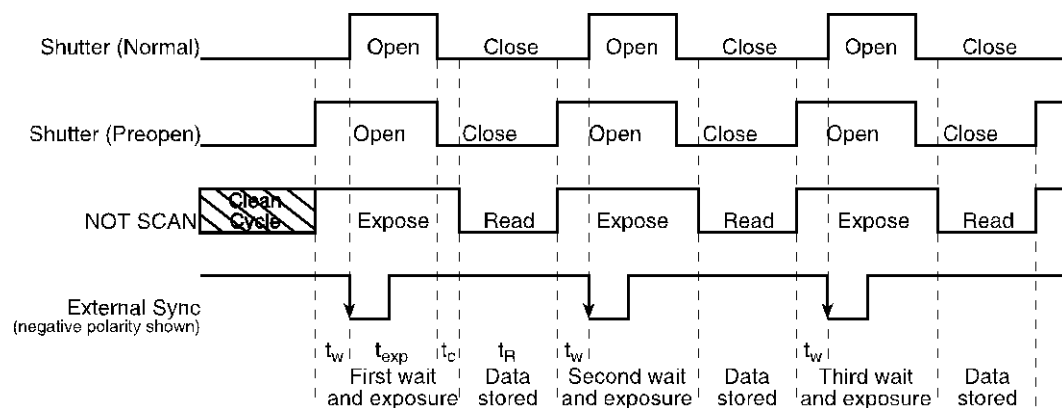
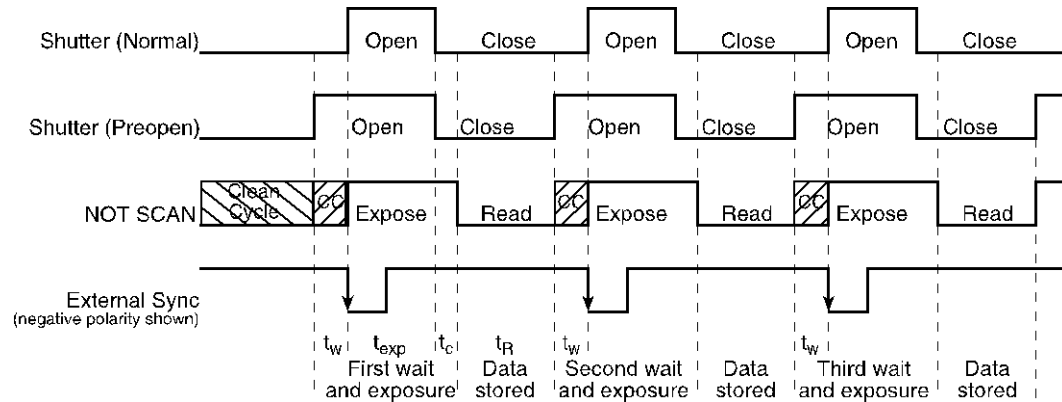

Figure 18. Timing Diagram for External Sync Mode (- edge trigger)
Figure 20. Continuous Cleans Timing Diagram (- edge trigger)
**Note:** If EXT SYNC is still active (in Figure 18, this means that if it is still LOW) at the end of the readout, the hardware may interpret this as a second sync pulse, and so on.
**Note:** If EXT SYNC is still active (in Figure 20, this means that if it is still LOW) at the end of the readout, the hardware may interpret this as a second sync pulse, and so on.
Figure 20 shows the same timing diagram as Figure 18 with the addition of continuous cleans (indicated by the shaded areas labeled CC). Continuous cleans are additional clean cycles and defined by the same parameter values as the standard clean cycles.